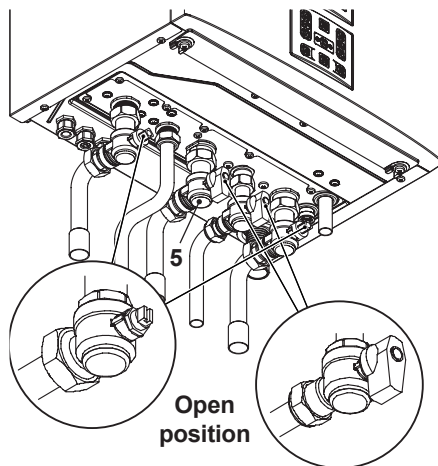

Fig. 7.1
- Open the gas cock 5 (Fig. 7.1) on the appliance and check the gas connector on the appliance for leaks.
- Open the valves located in the lower part of the boiler (Fig. 7.1).